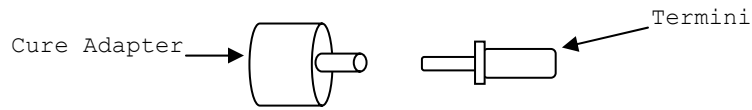

Figure 4. Inserting a terminus into a cure adapter.
Step 13 - Insert the terminus into the cure adapter until it rests against the metal section, behind the ceramic ferrule.(see figure 4).